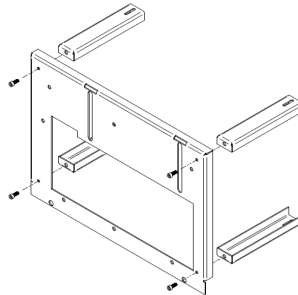

Figure 33 - Auxiliary table assembly
1. Protect the surface on which you are going to work. The four legs of the table should be attached by hand with four DIN 912 M8x20mm screws as shown in figure 33. The rest of the assembly will be easier to perform. As indicated in Figure 33.